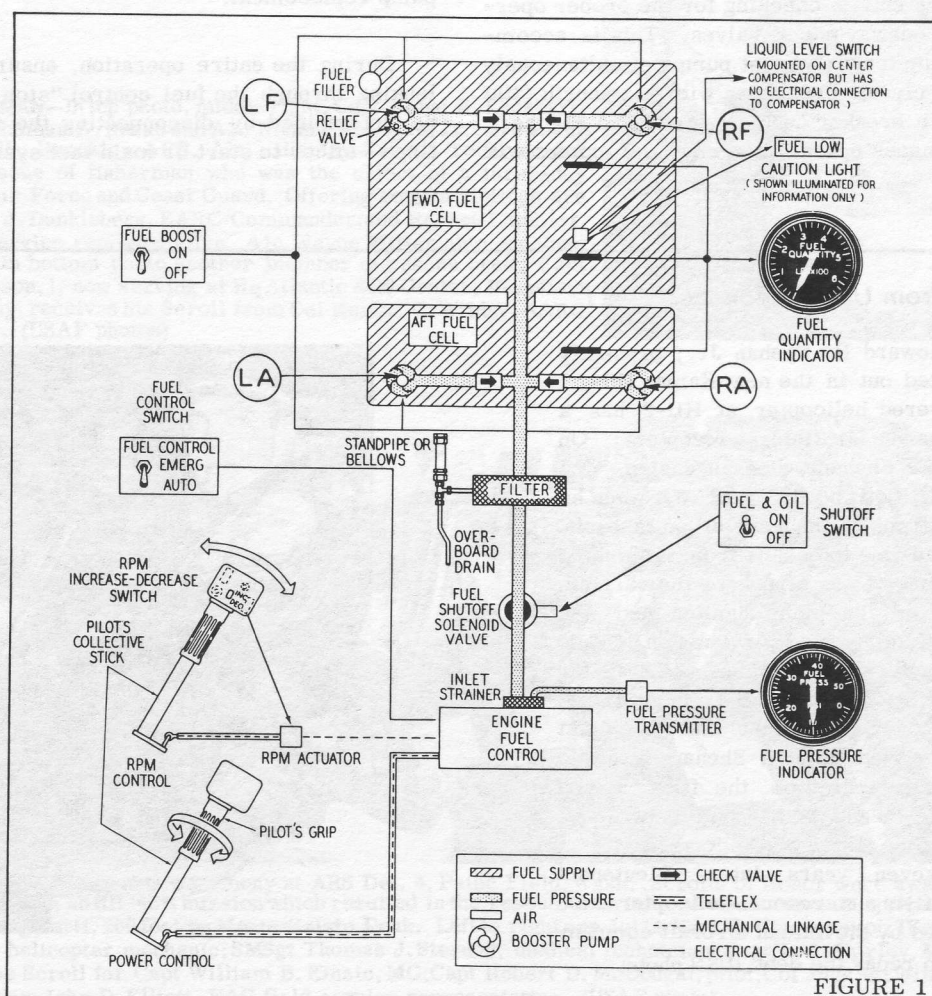

FIGURE 1
malfunctioning and the third shows which, if any, check valve is leaking. The four boost pumps are operated simultaneously by a single fuel boost "on-off" switch through their respective circuit breakers as shown in Figure 1. Each pump will be referred to according to the installed position as depicted in the drawing: Forward fuel cell—Left forward pump (LF); Right forward pump (RF). Aft fuel cell—Left aft pump (LA); Right aft pump (RA).
This procedure entails checking for the proper operation of the four oneway check valves. This is accomplished by actuating three (3) boost pumps simultaneously by means of the circuit breakers, with the fourth (4th) boost pump circuit breaker OFF. Referring to Figure 1, note that simultaneous operation of any three pumps will